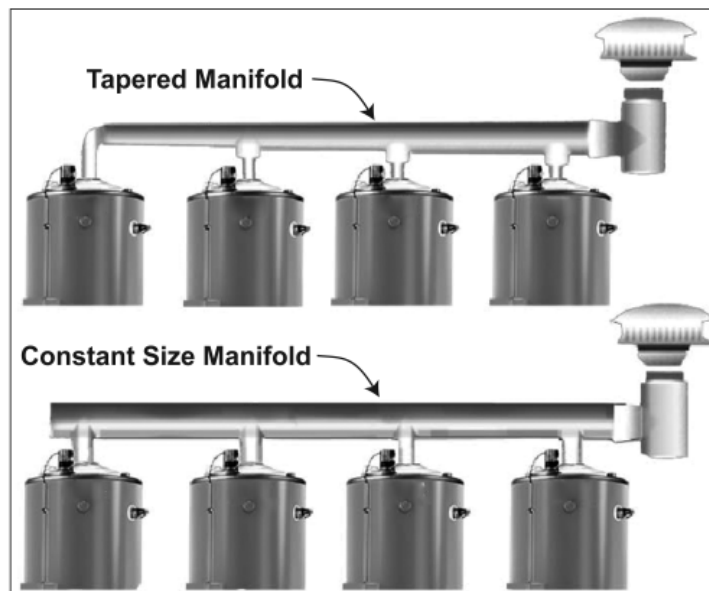

Figure 8
For larger applications, (A)BCG385T500-8N/8P water heaters can be common vented together, either in a tapered manifold or a constant size manifold. See Figure 8. In such cases, follow the National Fuel Gas Code requirements for the sizing and installation of fan-assisted products. The (A)BCG385T500-8N/8P model may be common vented only with other Category I appliances.